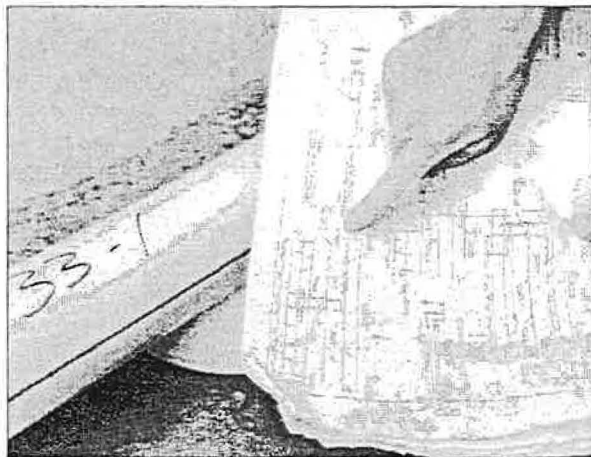

Figure 17
3. Assemble one complete air distributor section from the manifold to the end cap. Include the drainline pieces if applicable. Use the distributor sections as shown and marked on the erection drawings and the pipe itself. See Figure 17.